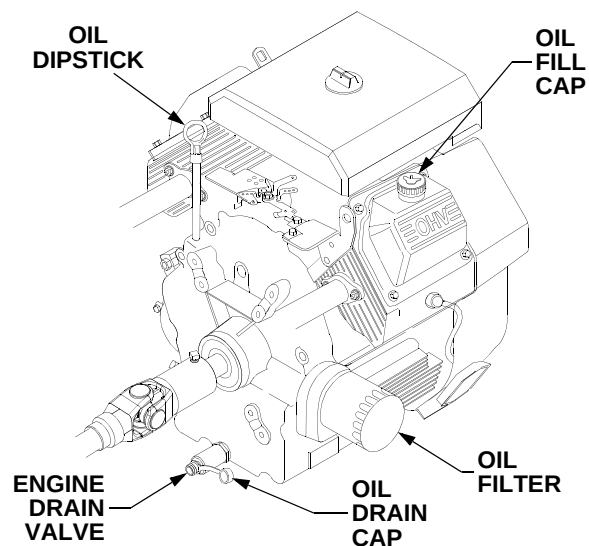

Figure 44
- Remove the dipstick and oil fill cap from the engine. Refer to Figure 44.
- Locate the engine drain valve on the rear of the engine (See Figure 44). Place a suitable container below the open end of the drain valve to collect the old oil.
- Pull the oil drain cap off the end of engine drain valve. To prevent loss of the cap, do not remove the cap's retaining ring from the drain valve. See Figure 44.
- Remove the filter by turning it counterclockwise using an automotive type filter wrench to loosen. See Figure 44.
- Push the drain valve fully inward until you are able to turn the valve clockwise to lock in the closed position. Refer to Figure 44.